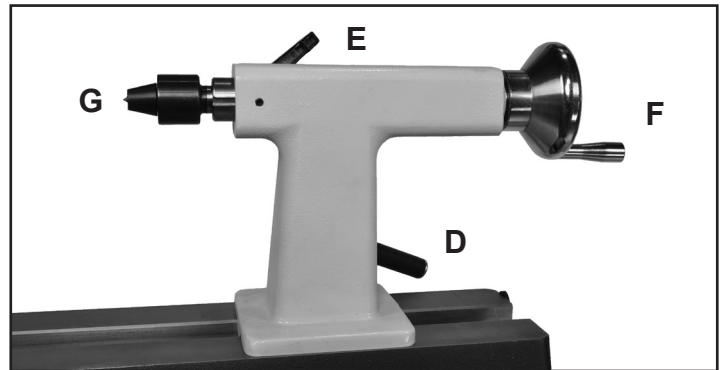

FIG. 5
1. **TAILSTOCK LOCK HANDLE:** (FIG. 5, D) Locks the tailstock in position along the length of the lathe bed. Unlock the cam lever handle to position the tool rest to move the tailstock. Tighten handle when properly positioned. See page 12 for adjusting clamping pressure.
2. **TAILSTOCK QUILL LOCK HANDLE:** (E) Secures the tailstock quill in position. Unlock the handle to move the quill, with live center, forward or backwards. Tighten the locking handle when the quill is finally positioned.
3. **TAILSTOCK QUILL HANDWHEEL:** (F) The handwheel advances or retracts the quill 0 to 3-1/2". The tailstock quill lock handle (E) must be loose to move the quill.
4. **TAILSTOCK LIVE CENTER:** (G) Used for turning between centers. The Live Center (#20C) and the Quill (#6CA) have MT-2 tapers. Remove the live center by retracting the quill until the center loosens, or use the knockout bar.